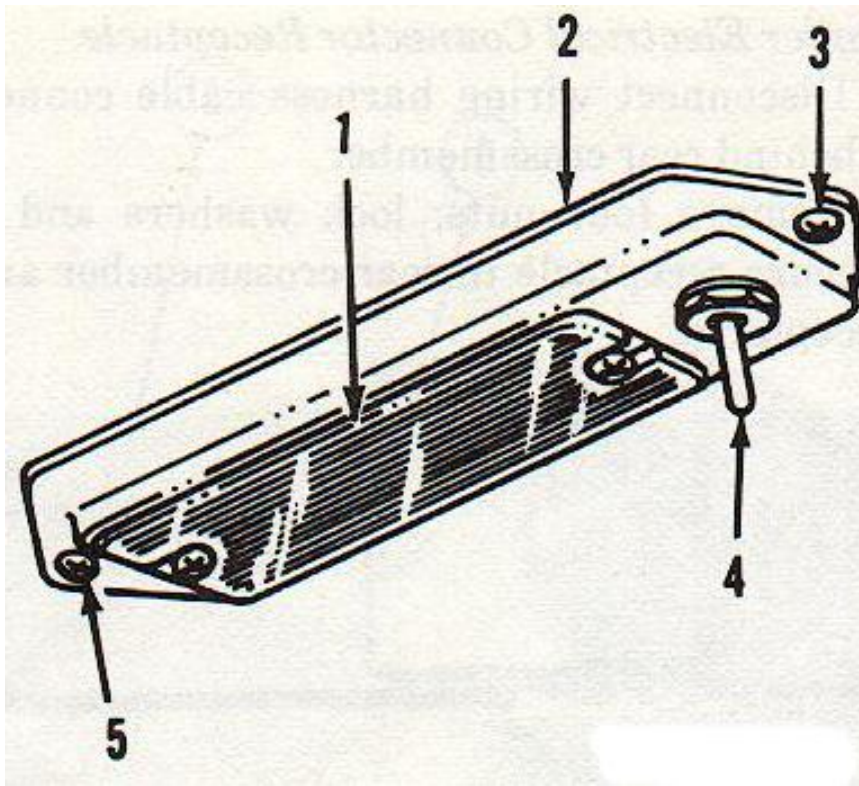

Figure 2-49. Dome light.
s. Dome Light Bulb. (Fig 2-49)
- (1) Remove two screws which secure dome light lens to lamp body and remove lens.
- (2) Remove bulb by turning counter-clockwise and pulling from socket.
t. Dome Light Housing and Switch. (Fig 2-49)
- (1) Remove two screws which secure dome light housing to ambulance compartment ceiling.
- (2) Lower light housing and disconnect wiring harness connector and remove housing.
- (3) Remove ring nut which secures switch to light housing.
- (4) Disconnect wiring harness connector from switch terminals and remove switch.